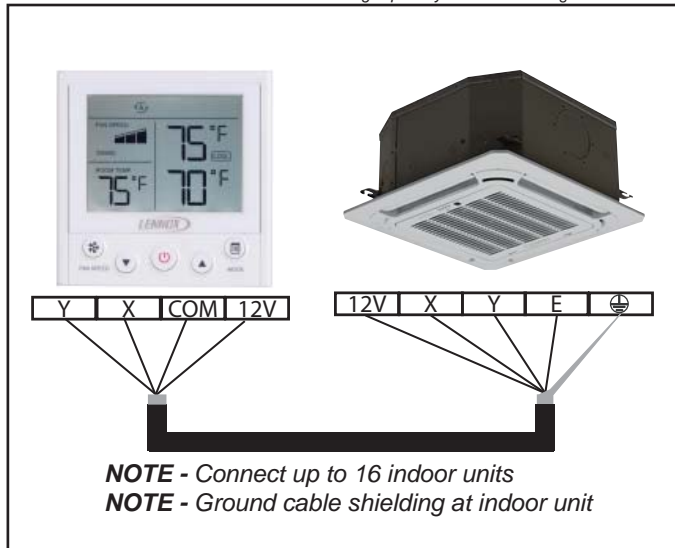

Figure 4. Wire to one Indoor Unit
6. Connect the controller to one or more indoor units, up to 16. Use 4-conductor shielded cable to connect to the first indoor unit. **NOTE** - *Wiring is polarity sensitive.* See figure 4.